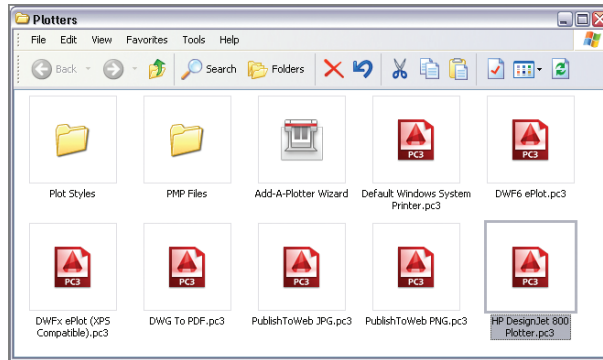

FIGURE 14.6 The new AutoCAD plotter driver appears in Windows Explorer.
10. The new AutoCAD plotter driver you just created, HP DesignJet 800 Plotter.pc3, appears in the Windows Explorer window that was opened in step 1 (see Figure 14.6). Close Windows Explorer.